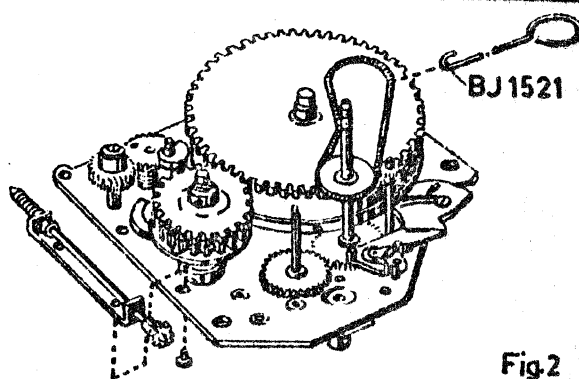

Fig 2
- The lower working plate as per fig. 2, without the control axle of footage counter.